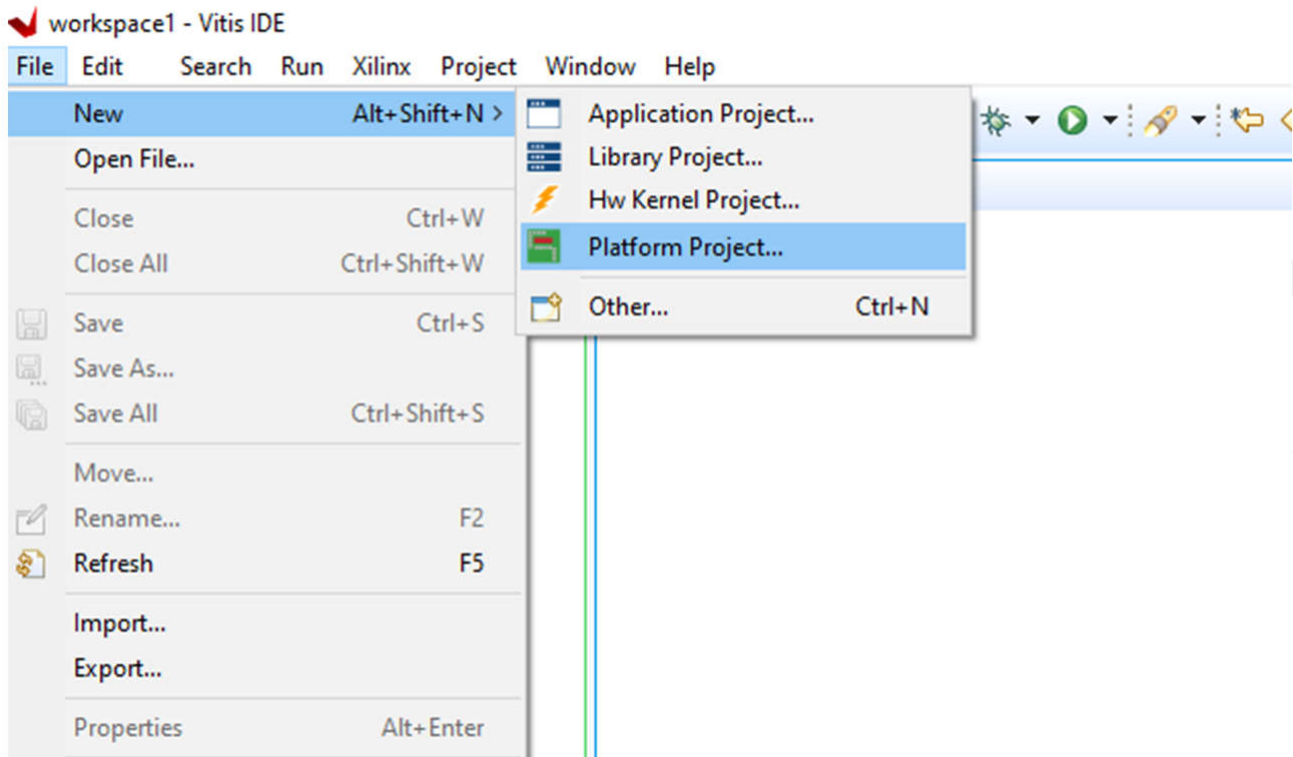

Figure 6-1. New Platform Project
1. Open the *File* menu, go to *New*, and then click *Platform Project* (see Figure 6-1).